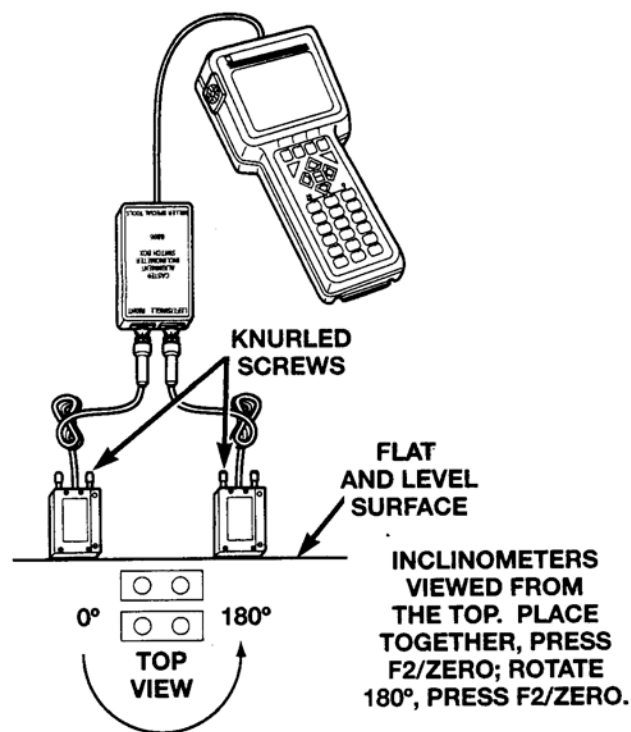

Figure 18
- i. Place both inclinometers together on a known flat level surface such as the alignment rack, with the knurled ends of the fastening screws facing upward (Figure 18).
- k. Rotate the inclinometers 180 degrees in place, then **press enter again** to calibrate both inclinometers in the other direction. The inclinometers are now ready to be installed on the vehicle (Figure 18).